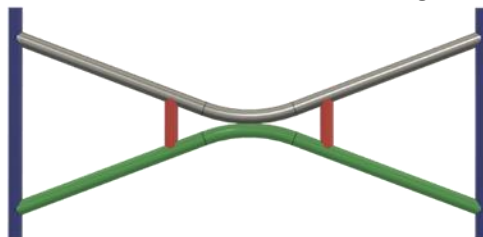

Figure 10
- C. If the two door bars do not intersect as they do when forming an “X”, then a minimum of two vertical tube sections shall connect the upper and lower door bars. Refer to Figure 10.